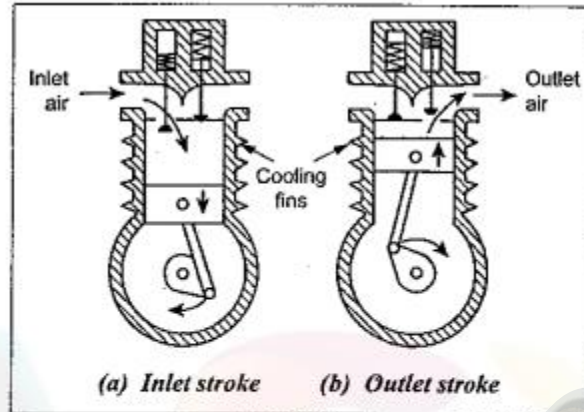

Fig. 11.2. Single cylinder compressor
A typical piston-type reciprocating compressor consists of a cylinder, cylinder head, piston with piston rings, inlet and outlet valves, connecting rod, crank, crankshaft, bearings, etc. The arrangement of a basic single cylinder compressor is illustrated in Fig.11.2.
**Inlet stroke :** During the downward motion of the piston [Fig.11.2(a)], the pressure inside the cylinder falls below the atmospheric pressure and the inlet valve is opened due to the pressure difference. The air is drawn into the cylinder until the piston reaches the bottom of the stroke.
**Outlet stroke :** As the piston starts moving upwards [Fig.11.2(b)], the inlet valve is closed and the pressure starts increasing continuously until the pressure inside the cylinder is above the pressure of the delivery side which is connected to the receiver. Then the outlet valve opens and air is delivered during the remaining upward motion of the piston to the receiver.